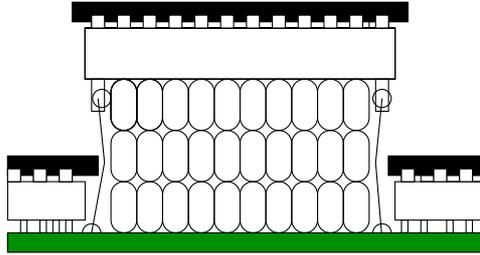

Figure 2: Lofting the chip socket (workaround).
8. **WORKAROUND** Loft the middle SAA1064 chip socket. Use two 10-wide headers to loft it. Then solder wires to the holes on either end and loft. You might insert heat-shrink tubing around wires to keep shorts from happening. See Figure 2.